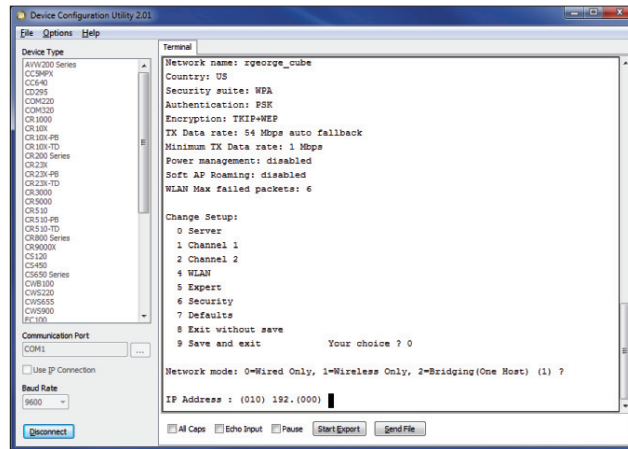

Figure 5. IP address (bottom of screen) is entered an octet at a time. Do not type in periods.
- IP Address: Enter the predetermined IP address, one octet at a time. (see Figure 5) Enter numbers only; no punctuation marks. Press “Enter” after typing each octet.